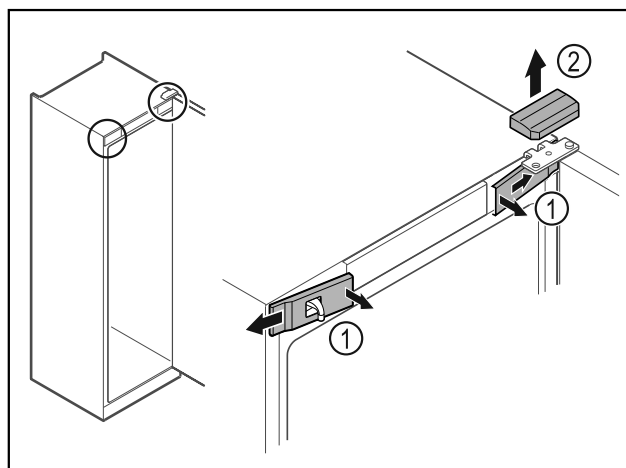

Fig. 16
- ▶ Unlatch the front covers Fig. 16 (1) on the inside and remove them sideways.
- ▶ Lift off the upper cover Fig. 16 (2).